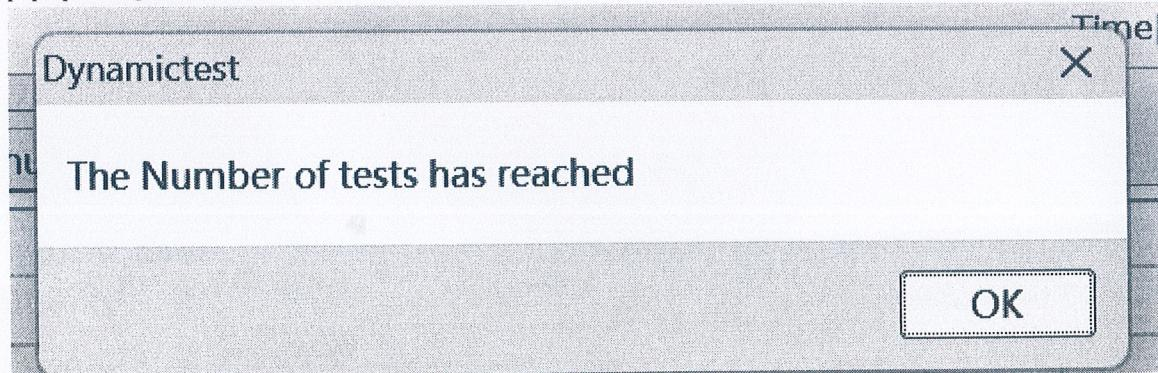

Figure5.2
- 2) Reached the corresponding number of fatigue cycles and completed the test. After completion, the following prompt box will pop up, Figure5.2.